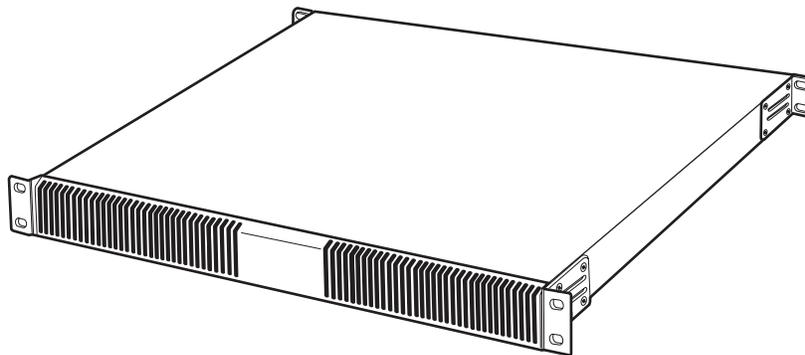

Figure 1. CM9765-MXB Mounting Baffle
1. Install the CM9765-MXB mounting baffle first (refer to Figure 1).